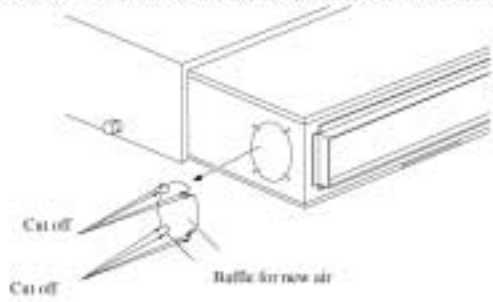

Fig.8
1. When new wind pipe is need to be connected, cut the new wind baffle as shown in Fig.8. Plug up the gap of new wind baffle by sponge if new wind pipe is not used.